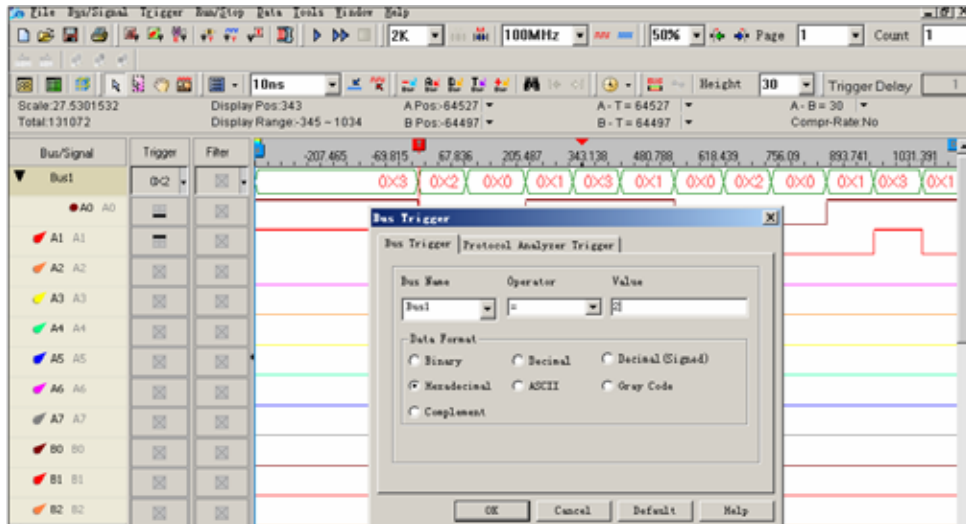

Fig 4-32 – Bus Trigger Setup
**Step4.** Click **Run** and activate the signal from the tested board to the system to get the result as shown in Fig 4-32.